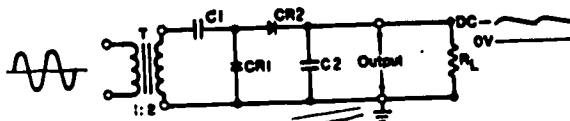
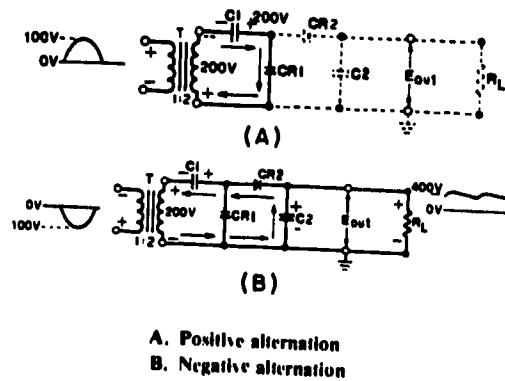

Fig 4-44. Half-wave voltage doubler.
Fig 4-45. Rectifier action of CR1 and CR2.
Figure 4-44 shows the schematic for a half-wave voltage doubler. Notice the similarities between this schematic and those of half-wave voltage rectifiers with which you are already familiar. In fact, the doubler shown is made up of two half-wave voltage rectifiers. C1 and CR1 make up one half-wave rectifier, and C2 and CR2 make up the other. The schematic of the first half-wave rectifier is indicated by the dark lines in view (A) of figure 4-45. The dotted lines and associated components represent the other half-wave rectifier and load resistor.